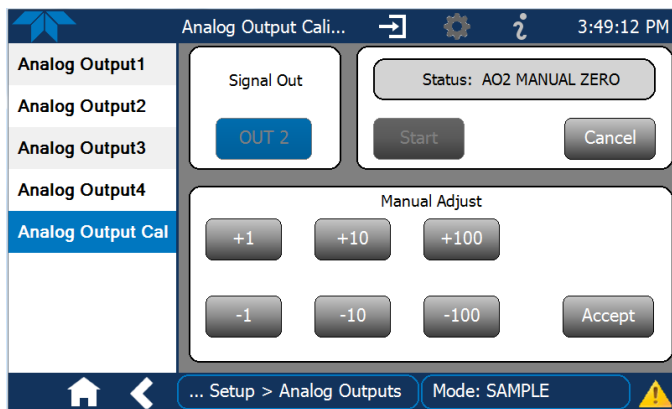
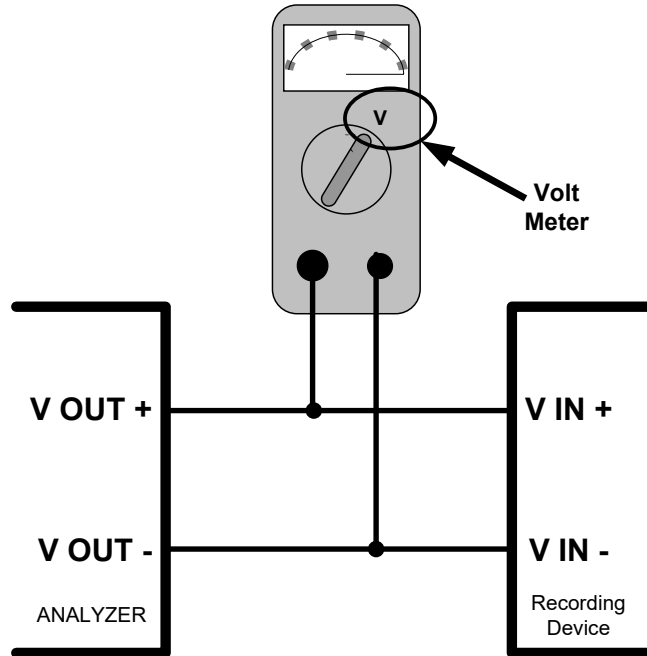

Figure 2-49. Analog Outputs Manual Calibration Screen (AOUT2 Example)
Figure 2-50. Setup for Checking / Calibrating DCV Analog Output Signal Levels
- MANUAL for individual calibration (Figure 2-49) of analog outputs where manual adjustments can be made (the only calibration type allowed when Current is selected for the Range). See Sections 2.5.8.1 and 2.5.8.2 .
It is possible to manually calibrate the voltages by using a voltmeter connected across the output terminals (Figure 2-50) and changing the output signal level in the Manual Adjust field of the Analog Outputs Calibration screen (Figure 2-49). Refer to Table 2-11 for voltage tolerances.